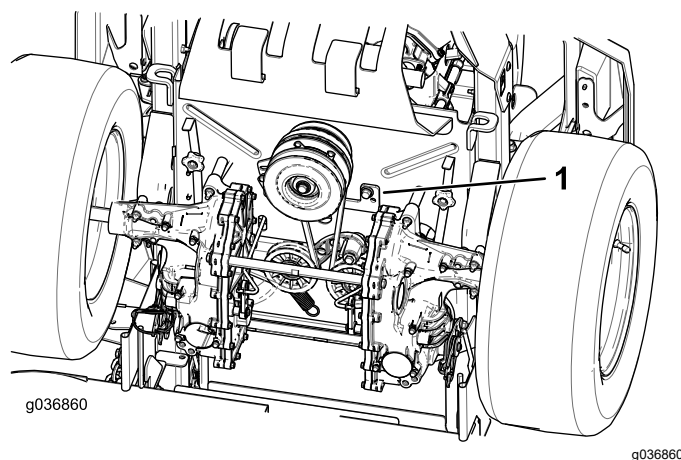

Figure 63
5. Remove the clutch stop (Figure 63).
9. Install the clutch stop (Figure 63).